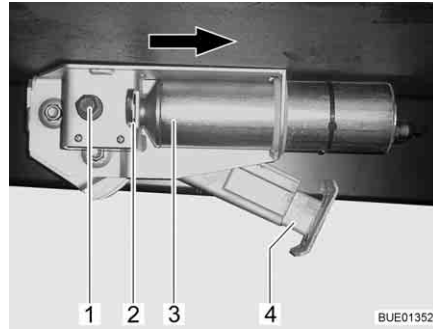

Fig. 31 Electrical steady leg on vehicle
- Within 2 seconds, press the "Extend steady leg" button (Fig. 30,3) and hold it until the support leg (Fig. 31,4) is touching the ground.
- Within 2 seconds, press the "Retract steady leg" button (Fig. 30,1) and hold it until the support leg (Fig. 31,4) is fully retracted. Once the support leg is fully retracted, a control signal sounds.
- Press the securing bracket (Fig. 31,2) inwards.
- Push the motor (Fig. 31,3) in the direction indicated as far as it will go.
- Extend or retract the steady leg like a mechanical steady leg via the hexagonal nut (Fig. 31,1).
When the fault has been rectified: Push the motor in the opposite direction of the arrow to its initial position. Pull out the securing bracket (Fig. 31,2) until it engages.